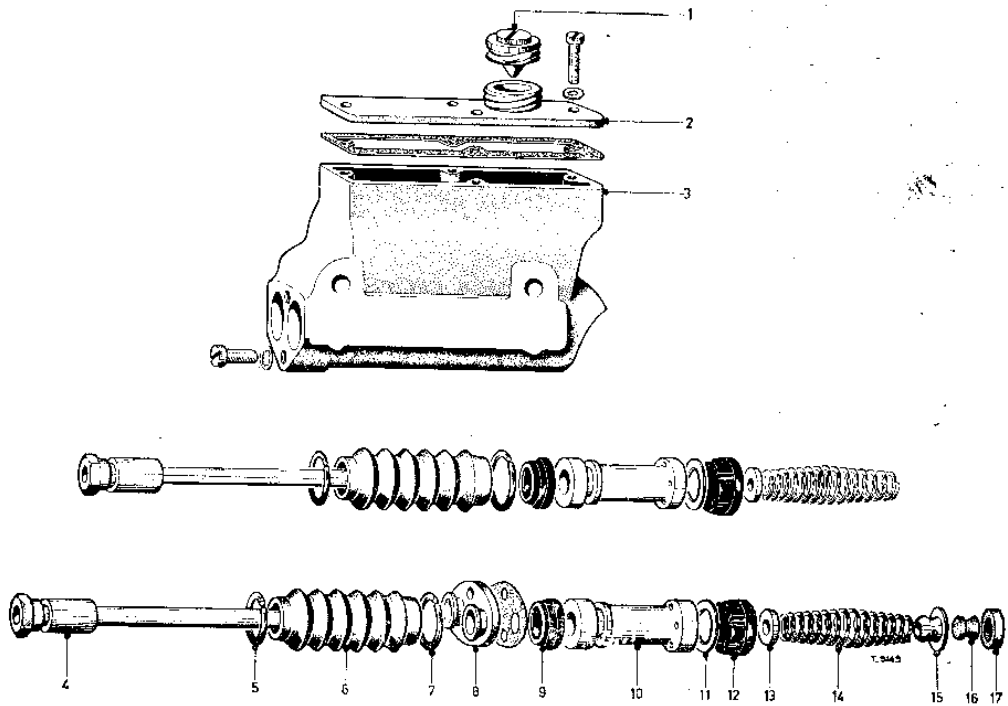

Fig. 32. Brake and clutch master cylinder (typical)
**Brake master cylinder:** The twin-bore master cylinder incorporates the brake and clutch master-cylinder piston assemblies. The fluid reservoir is built in unit with the master cylinders. The brake and clutch master-cylinder assemblies are identical, with the exception of the valve assembly, which is only fitted to the brake master cylinder. See Fig. 32 for an exploded view. Keep the fluid level half an inch below the filler-plug opening by topping-up with Lockheed hydraulic brake fluid or, when not available, with any other brake fluid of a reputable brand, conforming to SAE 70 R3.
Key to Fig. 32